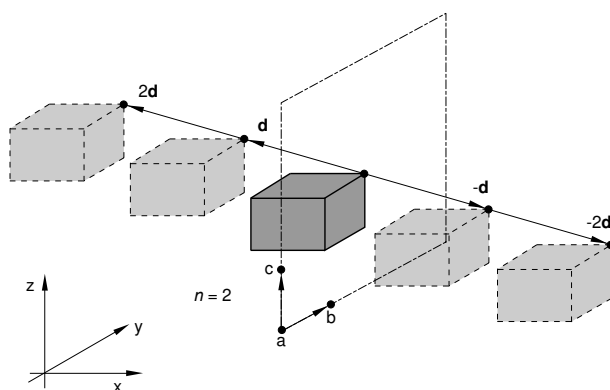

Figure 2: *PERIODIC, TYPE=3D option.
Set TYPE=3D to create a cavity composed of the cavity surface defined in the model and a series of similar images generated by its repetition according to a three-dimensional distance vector. The repeated images are bounded by planes parallel to plane *abc* (see *Figure 2*). The distance vector must be defined so that it points away from plane *abc* and into the domain of the model. This option can be used only for three-dimensional cases.
1. x -coordinate of point a (see Figure 2).